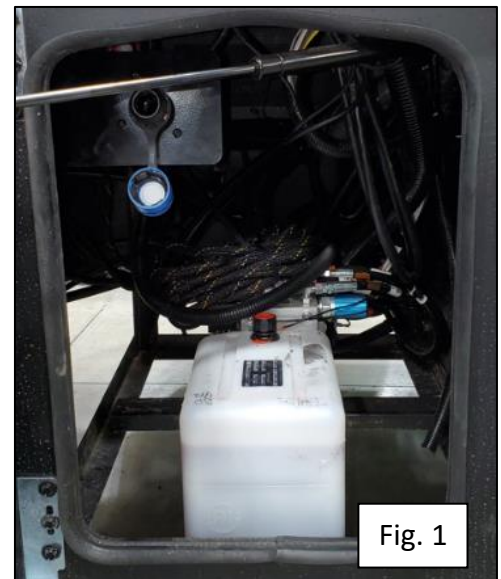

Fig. 1
1. Open the trunk door located on driver front side to access the DEF Fill. (Figure 1)